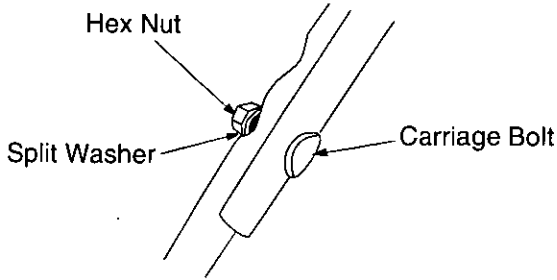

Figure 3
- Secure the upper handle to lower handle using the carriage bolts, split washers and hex nuts as shown in Figure 3. The head of the carriage bolts go on the outside of the handle.